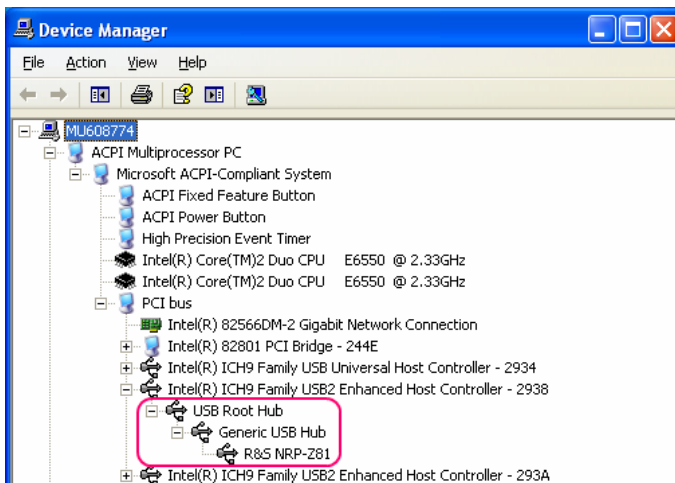

Fig. 1-9 Identification of USB root hub on which R&S NRP-Z5 is operated
3. Now identify the USB root hub on which the R&S NRP-Z5 is operated. To do so, expand the hierarchical display of the PC components, as shown in Fig. 1-9. Under **PCI bus**, find the USB host controller to whose root hub the R&S NRP-Z5 is connected. The R&S NRP-Z5 is shown as the **Generic USB Hub**. It can be distinguished from other USB hubs by the power sensor connected to it.